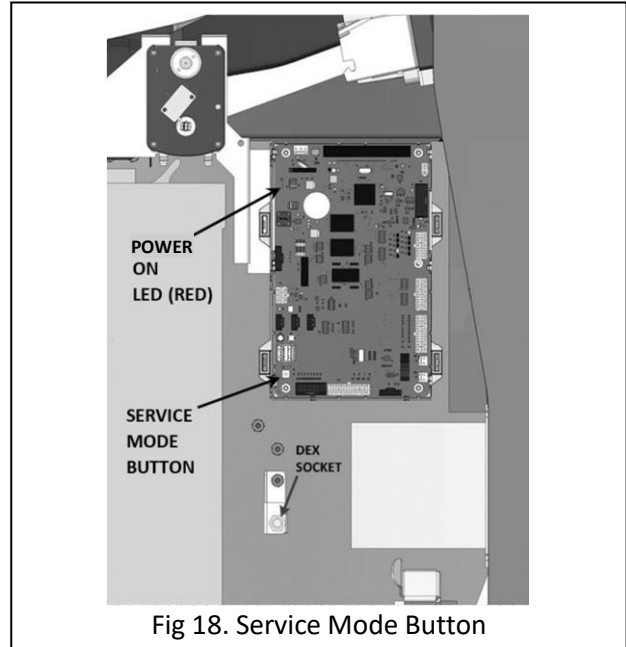

Fig 18. Service Mode Button
To enter **Service Mode**, press the **Service Mode Button** once, it is located in the bottom left hand corner of the control board, see Fig 18. To exit Service Mode, press the Service Mode Button again once or press the * key 3 times.